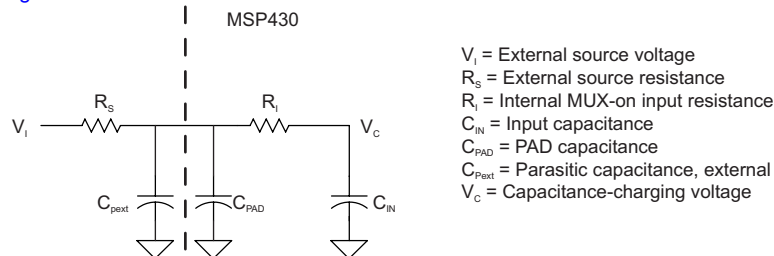

Figure 5-15. eCOMP Input Circuit
(1) eCOMP C_{IN} model, see Figure 5-15 for details.